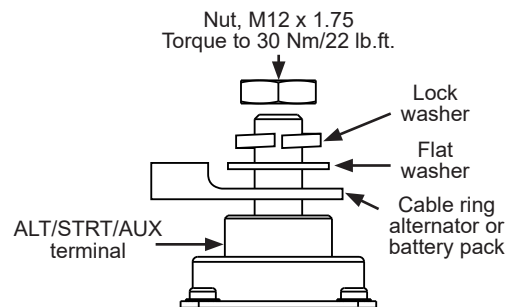

Figure 3: ALT/STRT/AUX Terminal Stacking Sequence
3. Connect cable(s) from alternator's output terminal (or other power source if applicable, depending on application) to ALT terminal on N2013. See Figure 3 for hardware stacking sequence. Torque to 30 Nm/22 lb. ft.
4. Connect cable(s) from vehicle's main, AUTO, or SLI (starting, lighting, ignition) battery pack to N2013 isolator STRT terminal. See Figure 3 for hardware stacking sequence. Torque to 30 Nm/22 lb. ft.
5. Connect cable(s) from vehicle's auxiliary battery pack to N2013 isolator AUX terminal. See Figure 3 for hardware stacking sequence. Torque to 30 Nm/22 lb. ft.